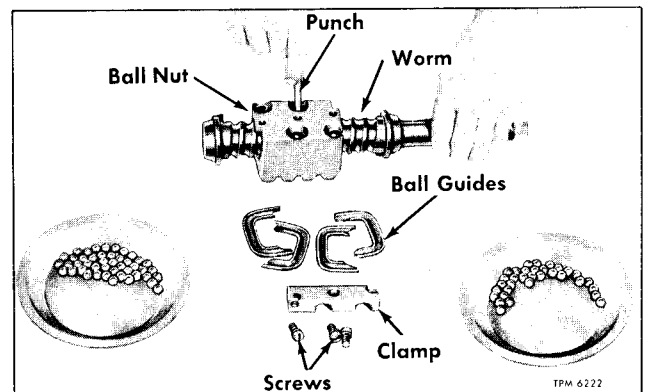

Figure 17—Filling Ball Circuits in Nut (Typical)
holes in upper circuit of nut. Gradually turn shaft away from that hole while inserting balls. Continue until the circuit is filled from bottom of one hole to bottom of the other, or until stopped by reaching end of the shaft worm (fig. 17).
4. In event balls are stopped by reaching end of shaft worm, hold down balls already installed with a rod or punch in return guide hole (fig. 17). Turn shaft in the reverse direction a few turns. Filling of the circuit can then be continued. It may be necessary to work shaft back and forth, holding balls down, first in one hole and then in the other. This will close up spaces between balls, filling the circuit completely and solidly.